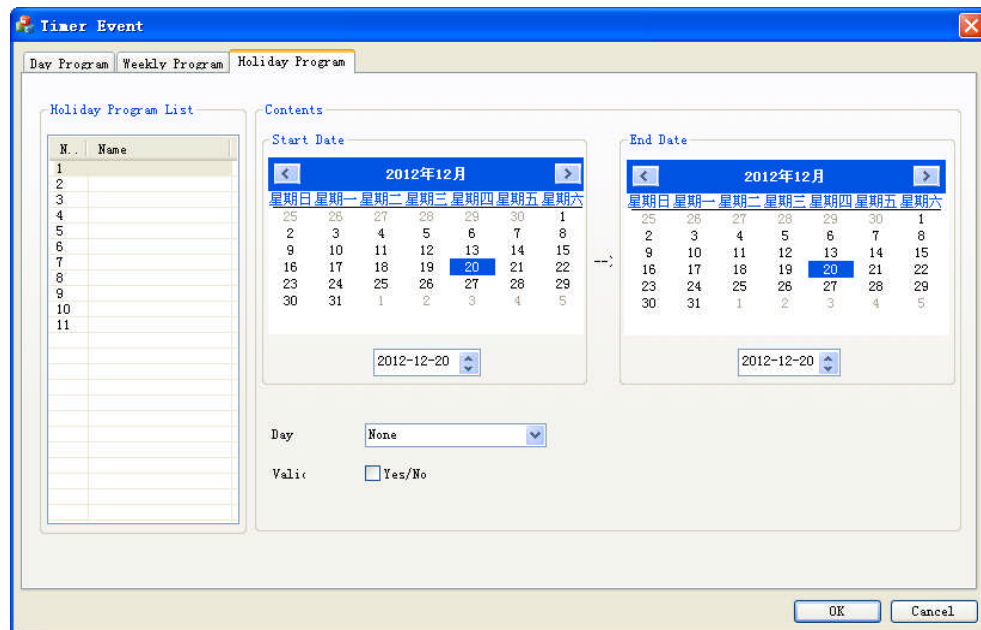

Figure 26 Timer Event - Holiday Program Window
2. Click **Holiday Program** tab, the Holiday Program window displays as shown in the Figure 26.